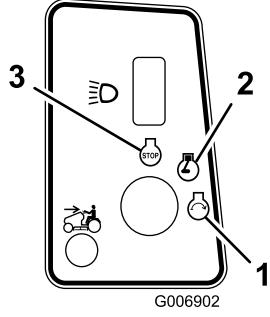

Figure 11
4. Turn the ignition key clockwise and hold it in the Start position (Figure 11). When the engine starts, release the key.
- Turn the ignition key to the Off position, wait for all moving parts to stop, and remove the key before leaving the operating position. (Figure 11).